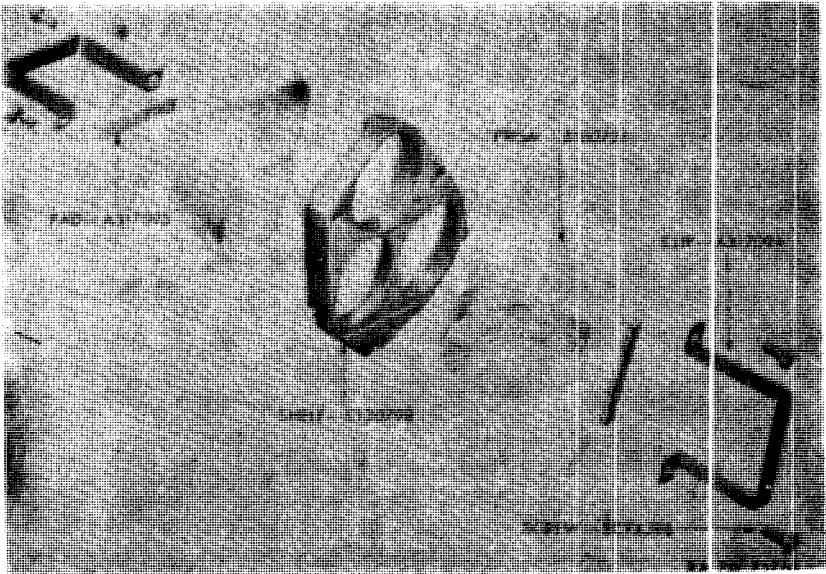

Figure 18-Observation Telescope M49-Prism Shelf Assembly C130797 Disassembled
(1) Make a pencil mark on, or otherwise inscribe, the unpolished surfaces of the prisms B180726 (fig. 18) and the adjacent surfaces of the shelf, so that each prism can be returned to its original position on reassembly.
(2) Remove the screws BCFX3BB (fig. 18) that hold the prism clips A317094 to the shelf. Carefully remove the pads and the prisms that are held by the clips, taking care not to chip or damage the prisms.